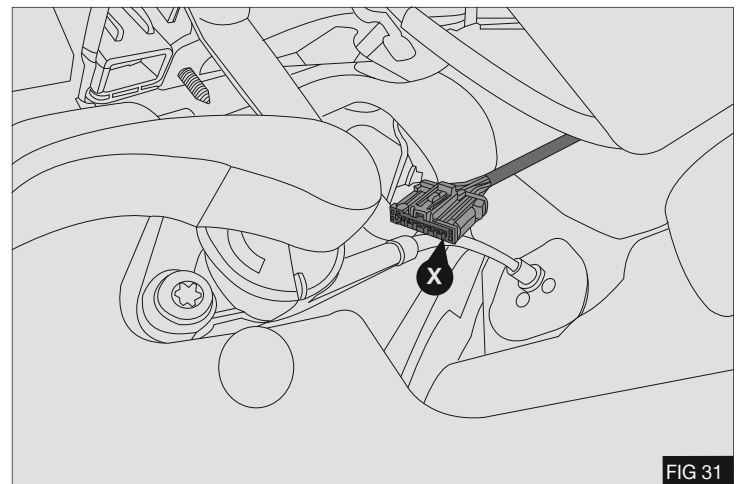

FIG 31
- The 6 way connector (X) (black plug) is located in the left hand area of the dashboard behind the passenger compartment fuse and relay box. It is secured on the dashboard wiring using a tear-off link. Extra length is provided for the connection - Fig 31